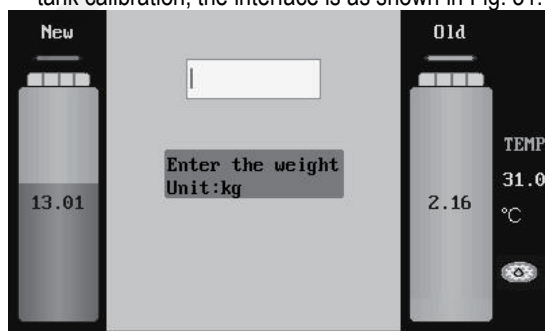

Fig. 31
- 2) Press ENTER key to select the item for new fluid tank calibration, the interface is as shown in Fig. 31.